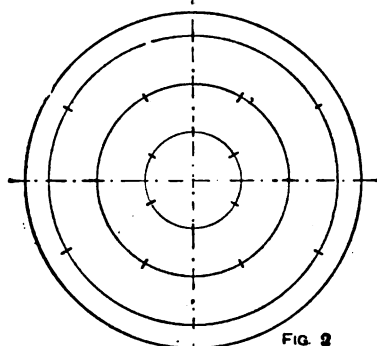
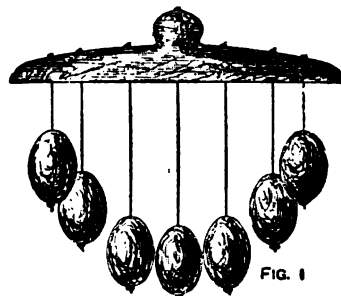

FIG. 2
FIG. 1
**Card Table.**—A card table 3ft. square is much too large; 2ft. square will be quite sufficient. Fig. 1 shows a design in elevation of a card table of the size last mentioned. The table should be made of hardwood; if pine or whitewood is used, increase the thickness of the members about  $\frac{1}{2}$  in. Fig. 2 shows the method of joining the rails to the leg mortises. The framework is 1 ft. 8 in.
diameter; see Fig. 1. Take the wood off the lathe, and on the flat side mark circles with radii of 1 in., 2 in., and 3 in. respectively. Then step round these circles with their own radii, marking them off as shown in Fig. 2. Now turn up nineteen egg-shaped pieces about  $1\frac{1}{2}$  in. by 1 in., and bore holes through their lengths for elastic cords. Take one egg, thread it on and knot the elastic, and cut off 6 in. of it, putting it through the centre of the disc and fastening. Cut six lengths of 5 in., thread the eggs, and put them on the small circle, and proceed similarly with the next six eggs, making the elastic for those 4 in. long, another six being kept 3 in. long. When in position the eggs form a sort of inverted cone. A cord is fastened to the top, and the whole is suspended over the cot so that the baby can kick it. The addition of a toy bell to each cord would make it more musical, but would not be strictly Indian in character. Rattles made in India are generally painted in brilliant colours such as vermillion, with yellow lines on the eggs.